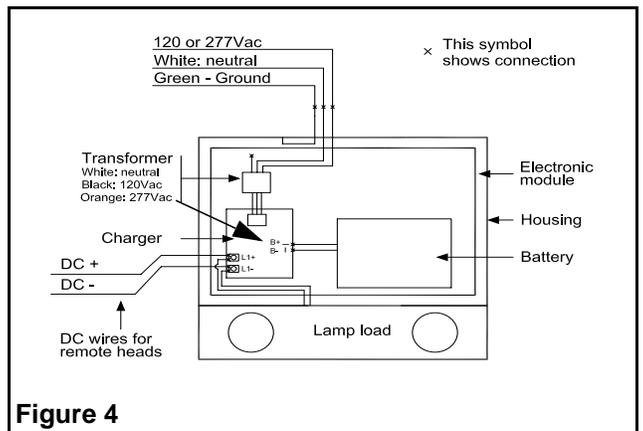

Figure 4
- a. Remove the lens-legend (3). Disconnect the lamps from terminal block (see fig 4) and remove the electronic module (3). Four screws secure the electronic module to the housing.
### Auto-diagnostic models (refer to figure 4.):